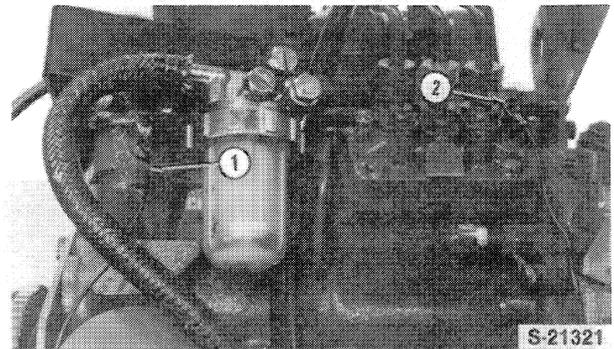

Figure 12
13. Disconnect the glow plug terminal wire (1), Figure 12.
14. Disconnect the engine oil pressure sensor switch wire (2), Figure 12.